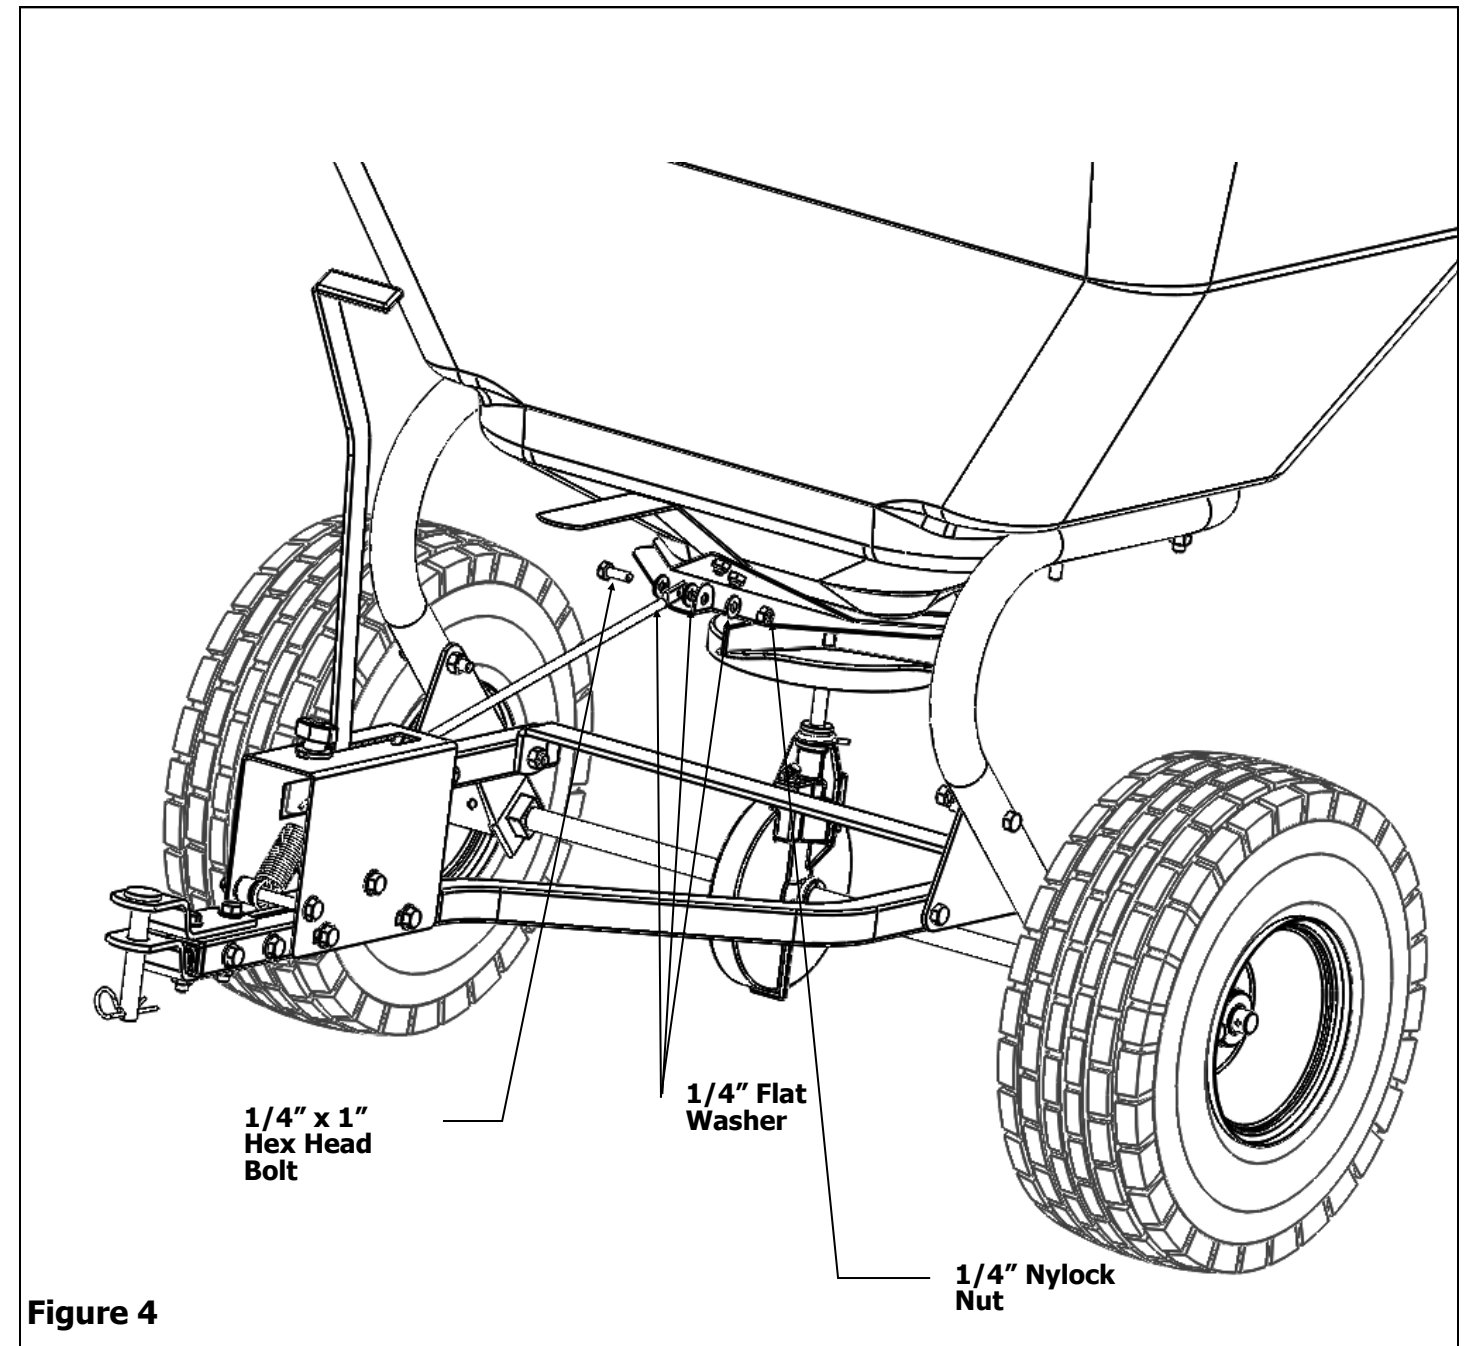

Figure 4
4. Remove the 1/4" x 1" Hex Head Bolt and 1/4" Nylock Nut from the end of the Control Rod. Attach the Control Rod to the Slide Plate on the Hopper Assembly using the 1/4" x 1" Hex Head Bolt first place one 1/4" Flat Washer onto bolt, insert bolt through hole in Connect Rod and place another 1/4" Flat Washer on to the bolt, then insert bolt through hole on the front of the Slide Plate, place another 1/4" Flat Washer and secure with 1/4" Nylock Nut. See Figure 4.